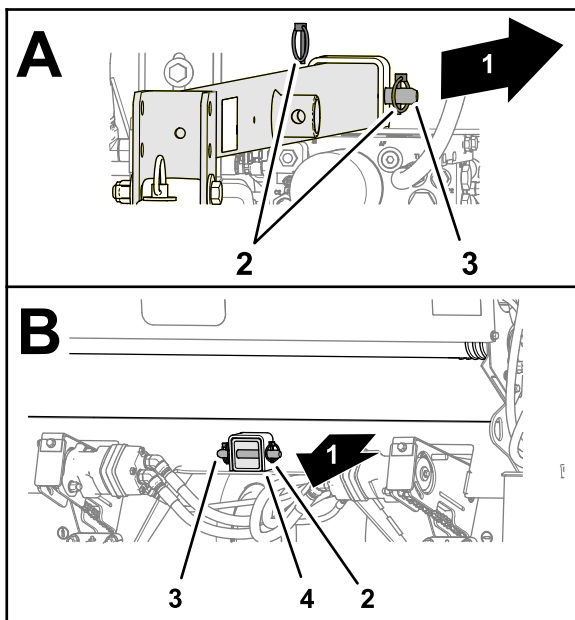

Figure 5
2. Align the holes in the tongue with the holes in the receiver tubes, and secure the tongue to the tubes with the 2 clevis pins and 4 lynch pins (Figure 5).